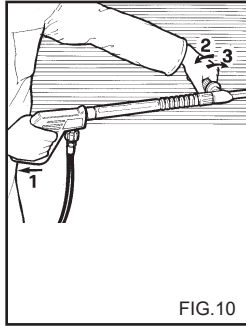

FIG.10
**USO DE LA LANZA DOBLE. (fig. 10).**